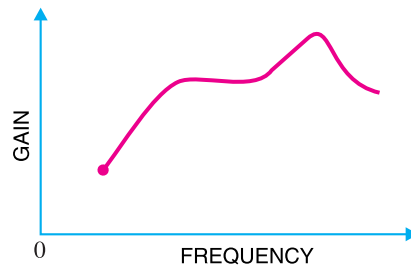

Fig. 11.16
**Frequency response.** The frequency response of a transformer coupled amplifier is shown in Fig.11.16. It is clear that frequency response is rather poor *i.e.* gain is constant only over a small range of frequency. The output voltage is equal to the collector current multiplied by reactance of primary. At low frequencies, the reactance of primary begins to fall, resulting in decreased gain. At high frequencies, the capacitance between turns of windings acts as a bypass condenser to reduce the output voltage and hence gain. It follows, therefore, that there will be disproportionate amplification of frequencies in a complete signal such as music, speech etc. Hence, transformer-coupled amplifier introduces *frequency distortion*.